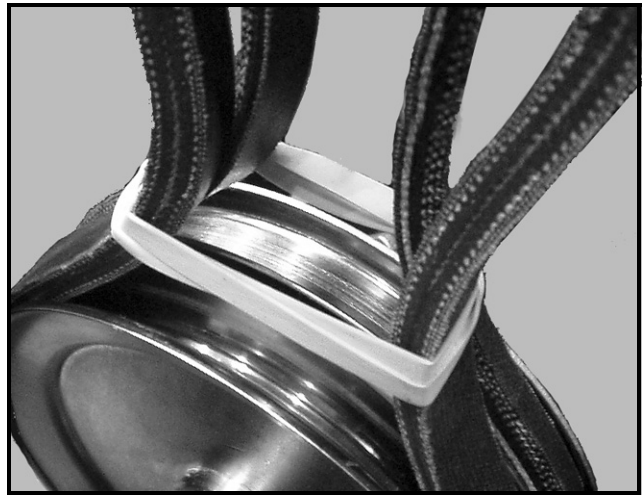

FIGURE 7
31. Install the belts onto the transmission pulleys and secure them to the pulley by placing a rubber band around the loose end of each belt. See Figure 7.